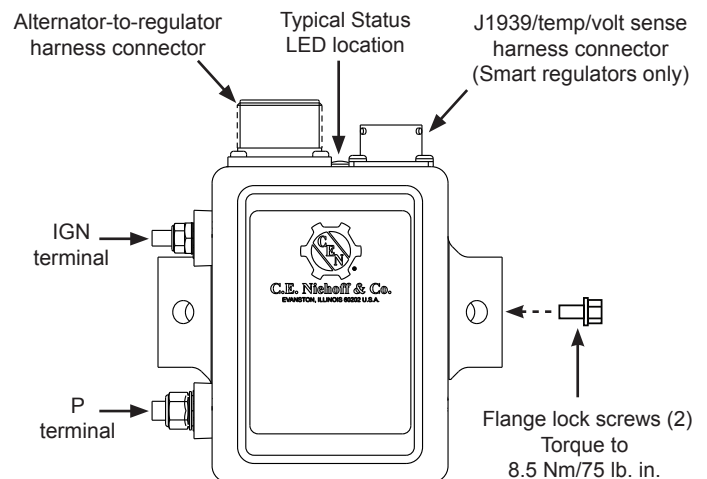

Figure 5: Typical Regulator Connections
3. Securely plug alternator-to-regulator harness into receptacle on regulator. See Figure 5 for receptacle location.
- **IGN terminal** (required) must receive voltage from vehicle switched DC ignition source or multiplex in order to energize regulator. Torque to 4.5 Nm/40 lb. in. See Figure 5.
- **P/AC terminal** (if required) taps AC voltage from alternator, typically half the charge voltage (3A maximum). P/AC terminal provides alternator RPM frequency at 10:1 ratio for use with tachometer. Torque terminal hardware to 4.5 Nm/40 lb. in. See Figure 5.
5. If using a J1939/temperature-voltage sense harness, plug J1939 harness into J1939 receptacle on regulator. See Figure 5 for receptacle location. Reference installation instructions included with harness for more information. Harness sold separately^{2,3}.